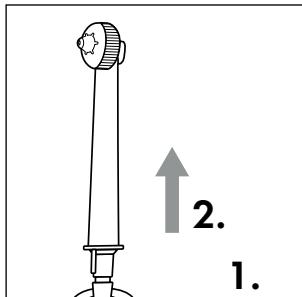

Fig. 3
- ◆ To remove the nozzle attachment ②, press the release button ⑪ on the hand unit ⑤ and then pull the nozzle attachment ② out of the hand unit ⑤ (see Fig. 3).